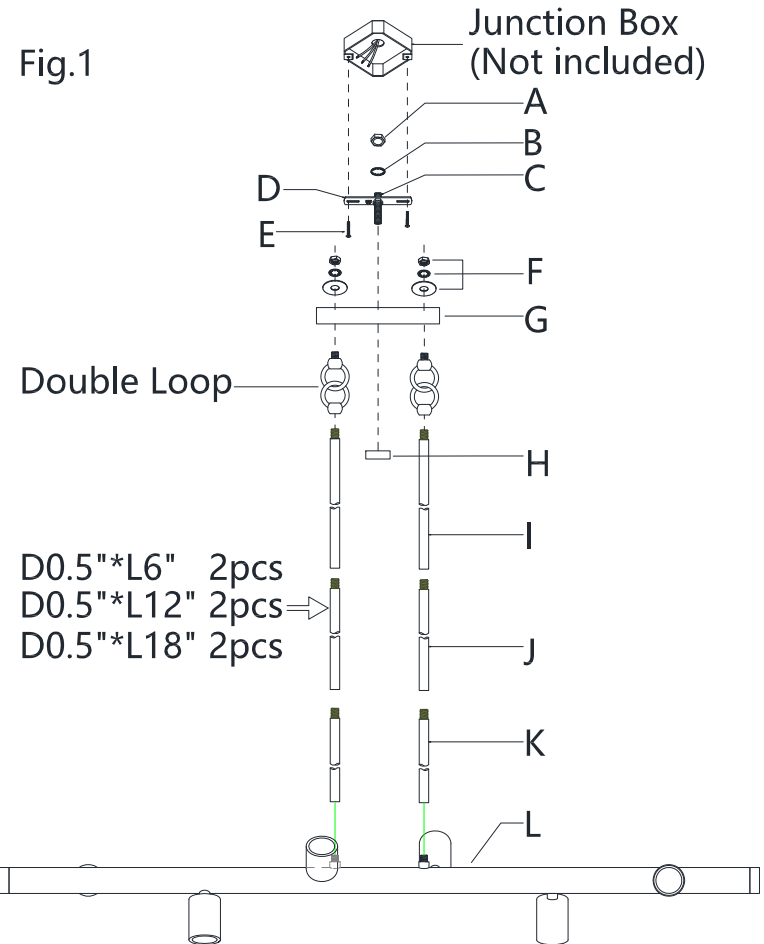

FIG.2
2. Slide the electrical wires through the pipe(K)/(J)/(I) and double loop. Raise the pipe(K) to top coupling of the lamp body(L), by turning it clockwise until tight. Raise the pipe(J)/(I) and double loop onto the end of pipe thread, by turning it clockwise until tight.
3. Attach the canopy(G) onto the pipe thread of the double loop and lock it securely with the lock washer and hex nuts(F).
4. End of pipe nipple screw(C) into single bar (D), place lock washer (B) over end of nipple protruding through single bar and lock it securely with the hex nut (A). Take this single bar assembly to junction box with junction box screws (E), tighten screws securely with screwdriver. The side of the single bar marked "GND" must face to out. **The junction box is not included.**
5. While holding the fixture body towards the ceiling, connect the electrical wires as Shown in Fig.2, making sure that all wire nuts are secured. You may have to wrap the connections with electrical tape. If your junction box has a ground wire (green or bare copper), connect the fixture ground wire to it. Otherwise connect fixture's ground wire directly to the Single bar with the green screw provided. After wires are connected, tuck them carefully inside the Junction Box.
6. Raise the fixture body on to the Junction box, aligning screws on single bar with mounting hole in canopy and lock it securely with the finial (H).